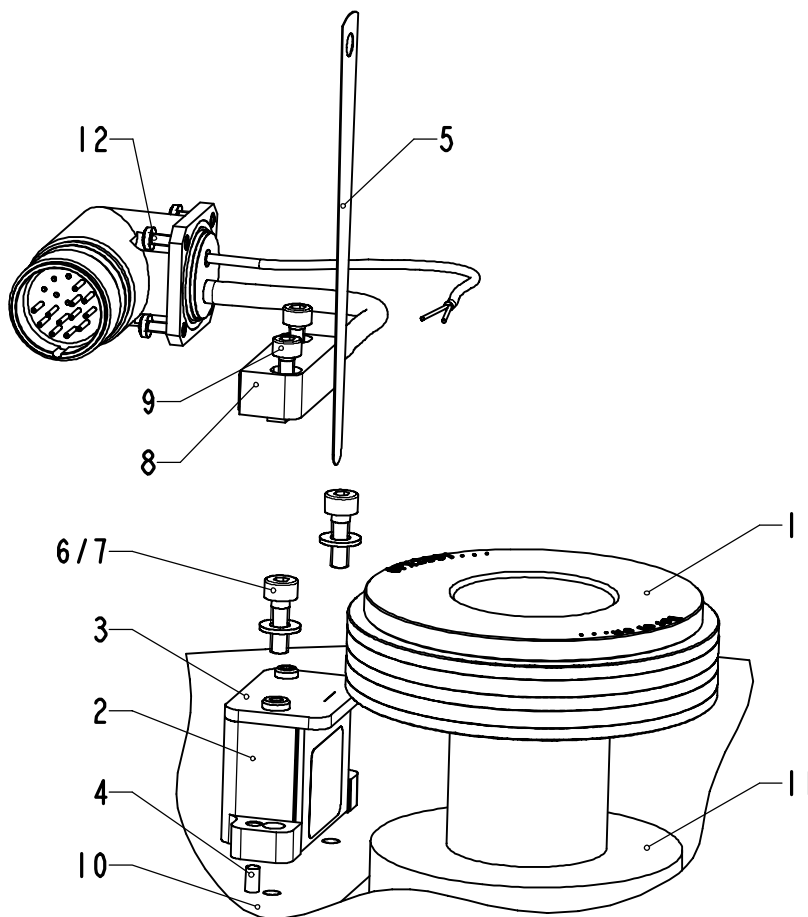

Fig. 5-2 Mounting drawing
The tightening torques must be carefully maintained (refer to Fig. 5-2).
Numbers in brackets, refer to the positions in Fig.5-2.
2. Insert the flange-mounted socket in the mounting hole and retain using the 4 M 2.5 screws provided (tightening torque, refer to Fig. 5-2).
3. Route the signal cable to the mounting location of the sensor head and retain using the 2 M3x6 screws provided (tightening torque, refer to Fig. 5-2).